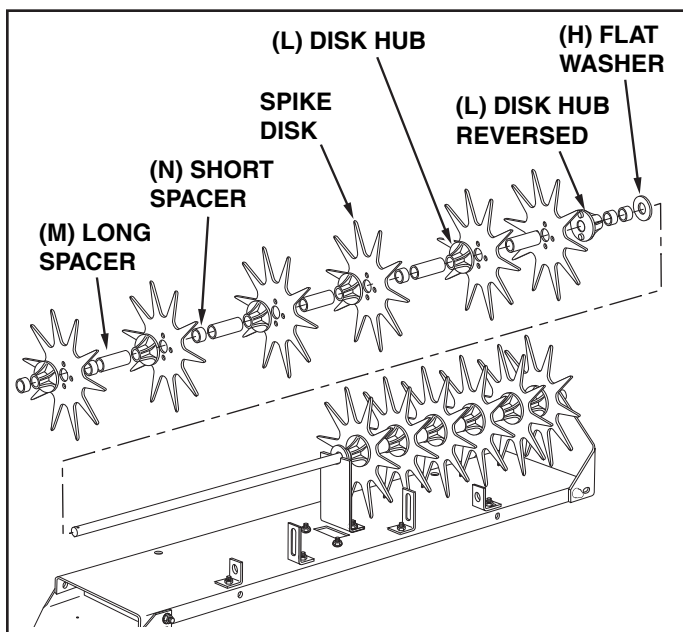

FIGURE 5 REAR VIEW
8. Assemble the following parts in sequence onto the long end of the axle (as shown in figure 5):
- a. A flat washer (H) and two short spacers (N).
- b. A disk hub (L reversed), spike disk and long spacer (M).
- c. A spike disk, disk hub (L), long spacer (M) and short spacer (N).
- d. A spike disk, disk hub (L) and long spacer (M).
- e. A spike disk, disk hub (L), long spacer (M) and short spacer (N).
- f. A spike disk, disk hub (L), long spacer (M) and short spacer (N).
- g. A spike disk, disk hub (L) and short spacer (N).